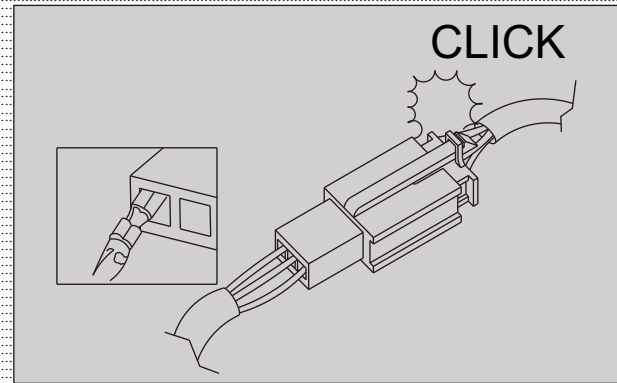

Fig. 5.2
- With a lock type coupler, be sure to release the lock before disconnecting it and push it in fully till it gets locked. (Fig 5.2)